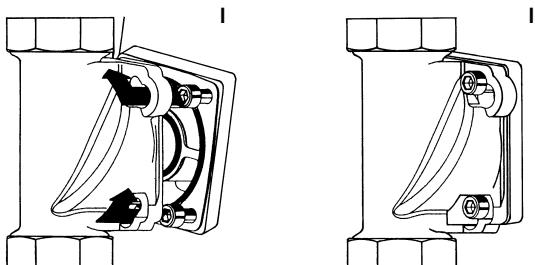

Fig. 5: Mounting the water softener
- / Position it on the built-in rotary flange so that the screw heads pass through the bayonet fixing drill holes (see fig. 5 I).
- / Swivel the softener through approx. 30° back in a clockwise direction (see fig. 5 II).
- / Position the water softener on the flange of the bypass valve marked with the cast in letter "G" (unit flange) so that the screw heads pass through the bayonet fixing drill holes (see fig. 5 I).